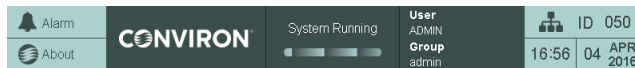

Figure 3-2 Top Banner
Figure 3-2 illustrates the Top Banner located on all screens. Although this Banner presents six (6) active areas, at this stage of the set-up, it is only necessary to set up the proper Time and Date.